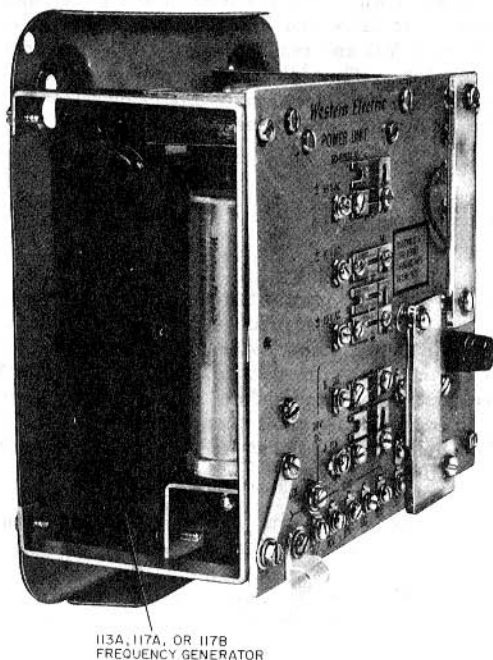

Fig. 1—20A2 Power Unit with Hardware Required for 20B2 Unit Less Cover
2.01 The basic unit of the 19- and 20-type power units are designated either the 19A2, 19A2A, or 19A3 power units. When the 113A and 117A frequency generators, rated MD, or the 117B frequency generator is added to the 19A2; the basic unit becomes the 20A2 power unit (see Fig. 1). The units are available for wall of relay rack mounting as follows: